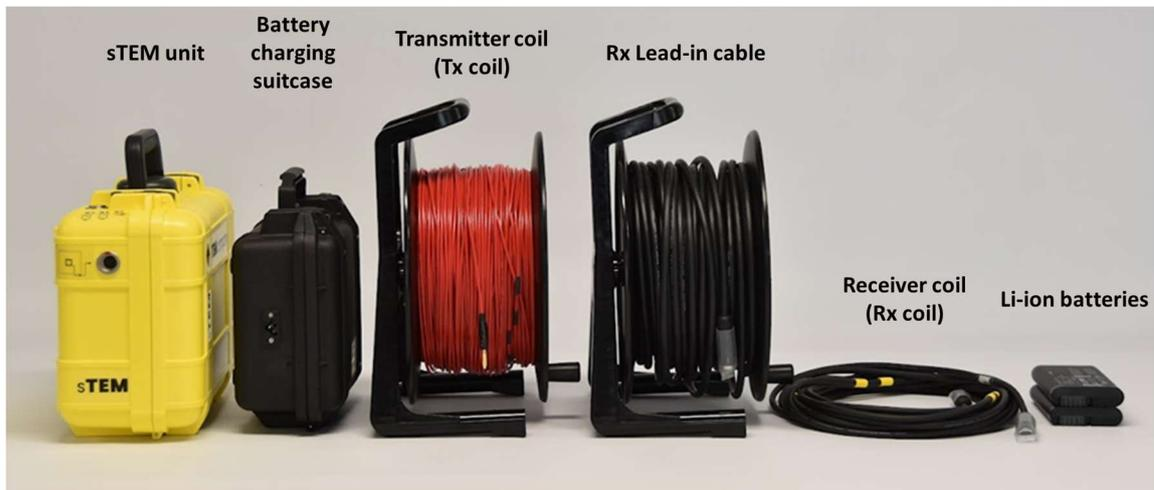

Figure 3. Main components of the sTEM system
Figure 3 shows the main components of a sTEM system.
- Yellow corner markers on cable to form a square loop (see Figure 3).